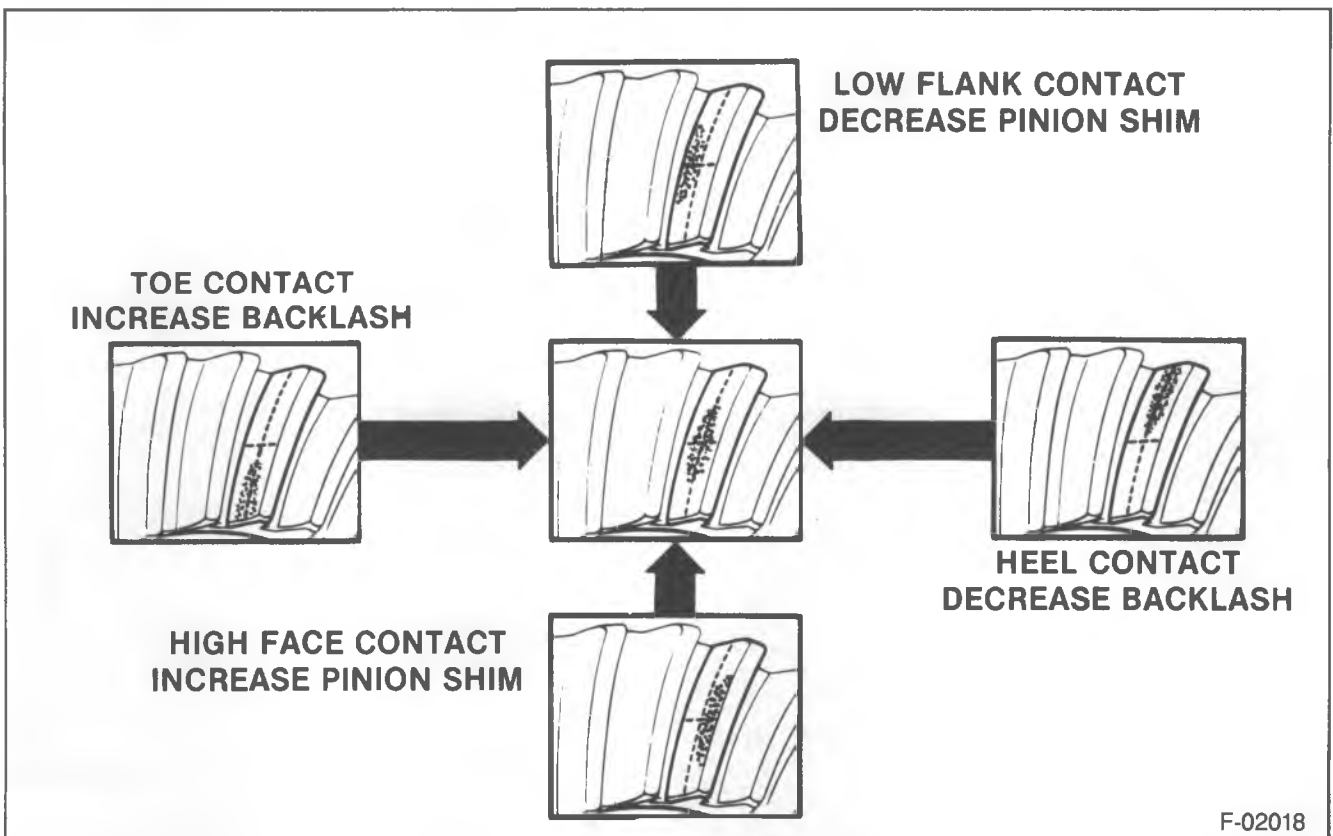

Figure 26—Gear Tooth Pattern
- Observe the pattern on the ring gear teeth and compare this with figure 26.